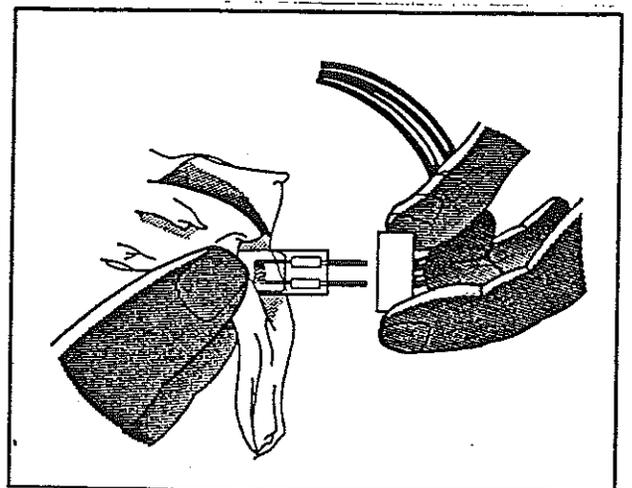

Fig. 17
- (g) Insert a new lamp into the base, making sure it is pushed fully home (Fig. 17). Handle the new lamp with a clean cloth or tissue. DO NOT touch the glass directly with the hands. Such contact is NOT dangerous, but the natural oils deposited on the glass will impair lamp life. If the lamp is inadvertently touched by hand, clean it with methylated spirits before continuing.